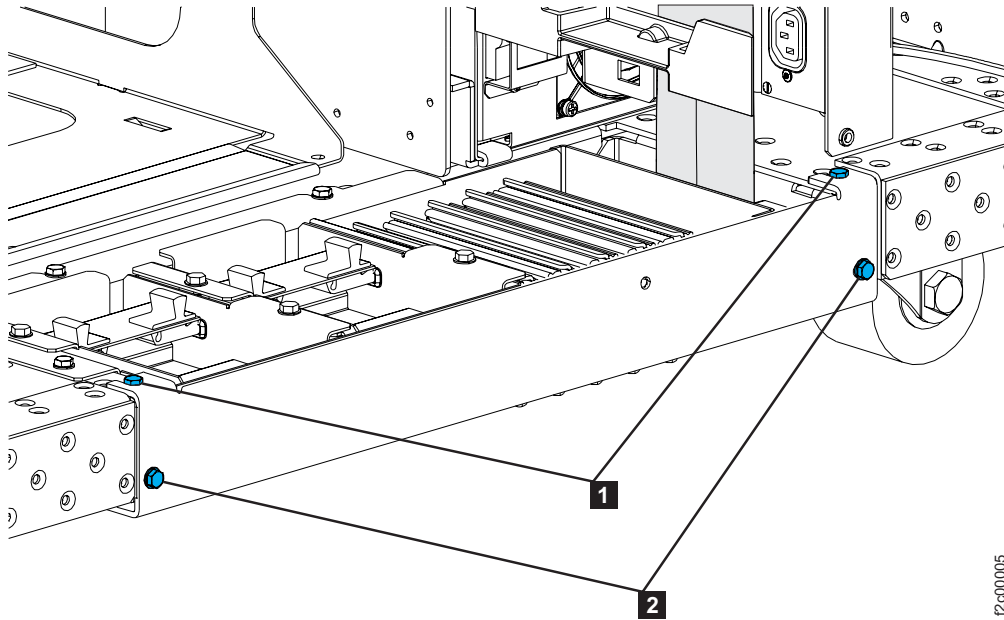

Figure 50. Tailgate frame bracket
9. Reinstall the tailgate bracket(s) in all frames using the screws **2** removed earlier. Tighten all four screws **1** and **2**. See Figure 50 on page 58